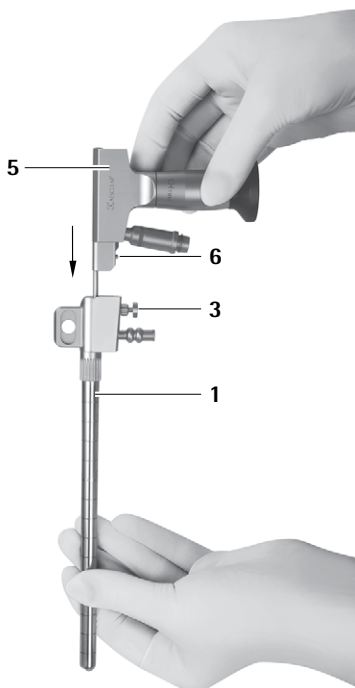

Fig. 2
- Lock the endoscope 5 in the MINOP InVent trocar 1, see Fig. 2,